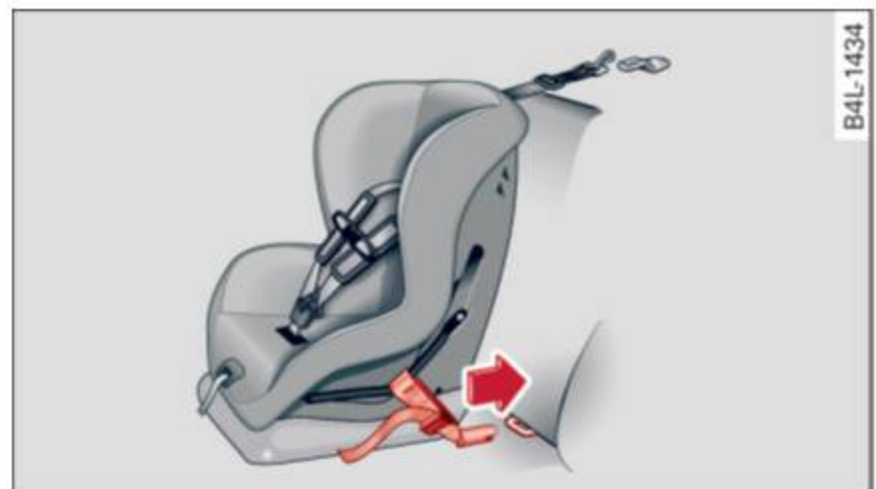

Fig. 149 Lower anchorages: proper mounting
- ▶ Attach both hook-on connectors with the spring catch release on the child safety seat onto the *LATCH* lower anchorage so that the connectors lock into place ⇒ *fig. 149*.